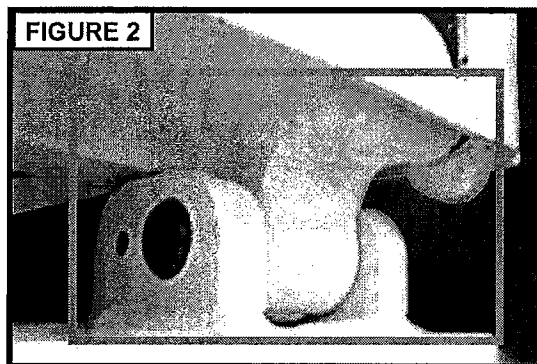

FIGURE 2
Step 2 (Figure 2)- Inspect all welds attaching the front hopper pivot hinge bushing to the hopper structure.